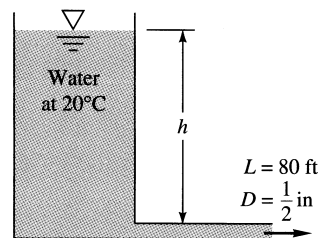

Fig. P6.61
6.61 What level h must be maintained in Fig. P6.61 to deliver a flow rate of $0.015 \text{ ft}^3/\text{s}$ through the $\frac{1}{2}$ -in commercial-steel pipe?